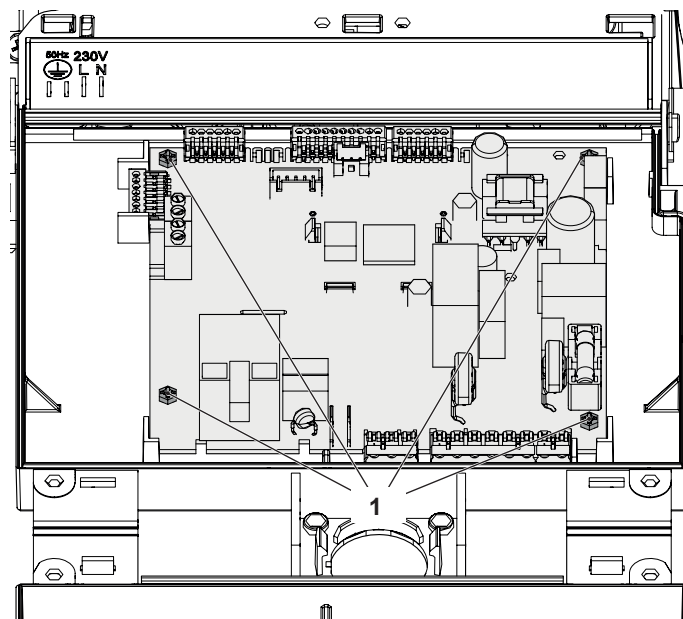

Figure 7.26
- 3 Unscrew the screws "1" (Figure 7.26).